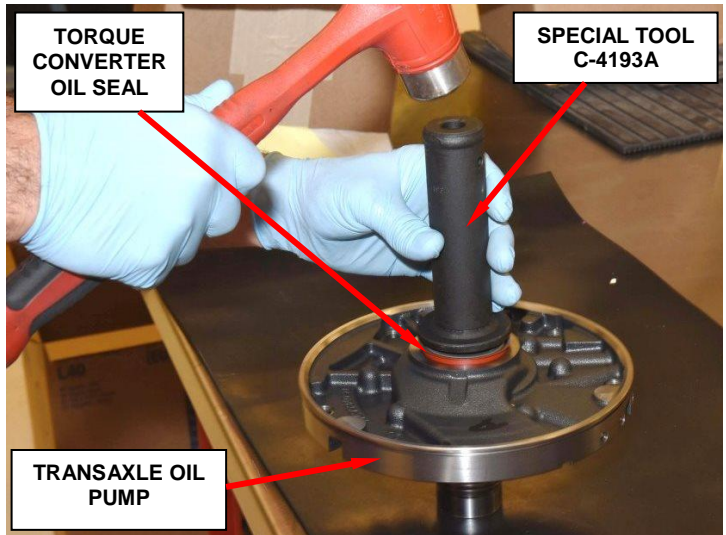

Figure 35 – Oil Seal Installation
- a. Using special tool C-4193A, install the torque converter oil seal (Figure 35).